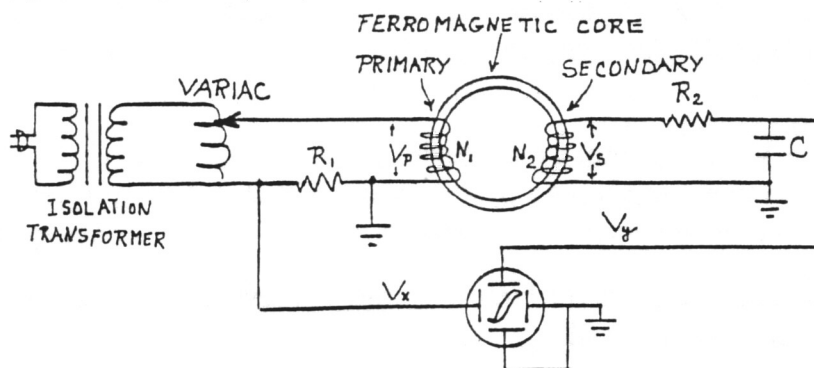

Figure 5: Schematic of apparatus to generate and display hysteresis loops.
Using the apparatus diagrammed in Figure 5, we can observe the hysteresis loop of a ferromagnetic material by the following technique. Suppose we wind two coils of wire on a torus of the material. Since ferromagnetic materials are good “conductors” of magnetic flux, the coupling constant between the two coils will be close to one.
- (1) **Set up apparatus** – Assemble the apparatus according to figure 5. The oscilloscope should be set to xy mode and display V_x on the x axis and V_y on the y axis. Be *sure* to include the isolation transformer. Use a 10Ω , 5W resistor for R_1 , a $500k\Omega$, 1/4W resistor for R_2 , and a $0.1\ \mu\text{F}$ capacitor for C . As usual, log their values in your notes.
- (2) **Measure hysteresis loops** – Starting with the Variac at zero, slowly turn up the voltage in increments such that each successive increment produces a hysteresis curve that is distinguishable from the previous one. Trace these curves onto clear acetate film, continuing until the material reaches saturation. You may be tempted to just take a digital photo of the curves, but you will need all the curves on the same piece of film for your analysis, so you are better off with the old technology of Sharpie® markers tracing on acetate. I recommend varying the Sharpie color so you can better distinguish adjacent curves. These measurements must be quantitative so you should include a scale marking for voltage. Try to set the 'scope channels so that the largest loop fills that display.
- (3) **Measure temperature rise** – Hysteresis loops dissipate energy, so the toroid will slowly warm. The key phrase is *slowly*. The maximum temperature rise you will see is a few degrees over 20 minutes. It requires some finesse to see this warming and to distinguish it from room temperature fluctuations. I recommend leaving the variac turned off and logging temperature every 30 seconds for 10 minutes to establish a baseline drift. Then crank the variac up to show the largest hysteresis loop and track progress for another 20 minutes. Hopefully your temperature vs. time plot will allow you to estimate a temperature rise rate.¹⁰